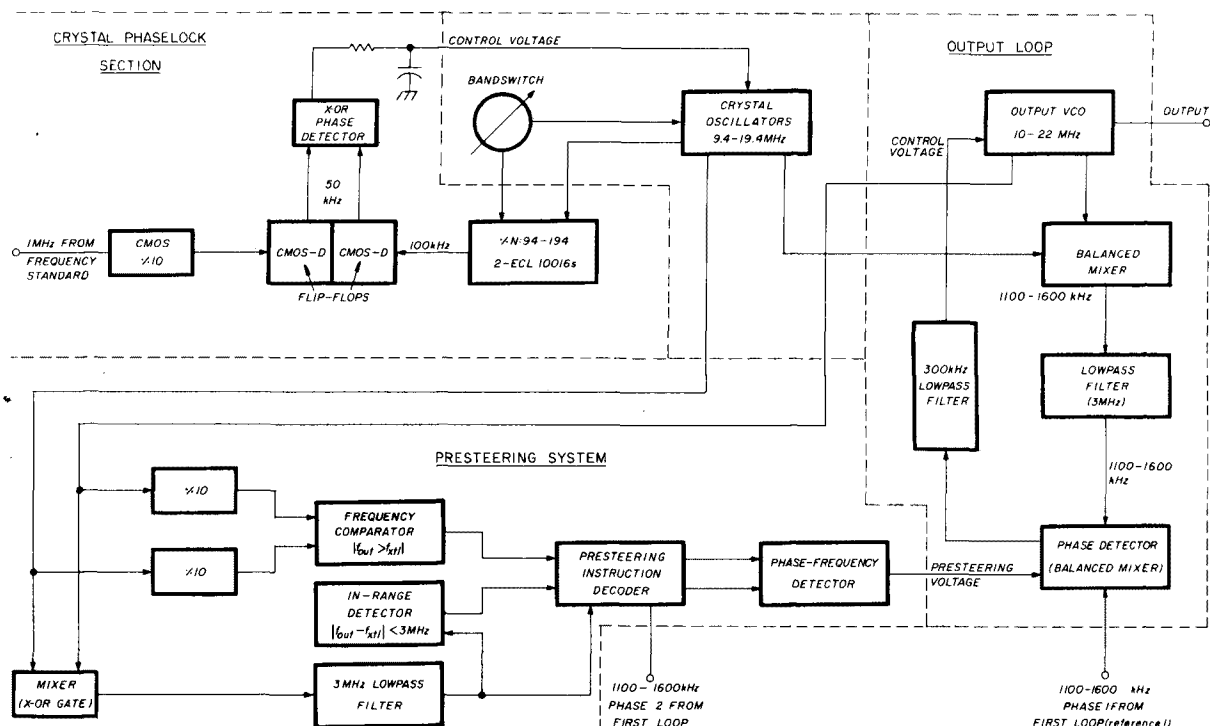

fig. 1. Up-converter block diagram.
For coverage of the high-frequency Amateur bands in 500-kHz segments, the VFO signal must be translated to a higher frequency for each band without degrading the phase noise performance. The output frequency is the sum of the first loop¹ output frequency and that of a stabilized crystal oscillator. This frequency plan is shown in table 1. Fig. 1 is a block diagram of the up-converter. The output loop works by first mixing the VCO signal with that of the crystal oscillator (XO) then phase comparing the 1100-1600-kHz result with the first loop output to produce the VCO control voltage. The presteering system ensures that the loop acquires lock and remains locked despite large temporary differences between the VCO and XO frequencies caused by bandswitching or sudden large frequency changes. Crystal-oscillator frequency accuracy is guaranteed by a simple divide-by- n loop, with the phase detector operating at 50 kHz.